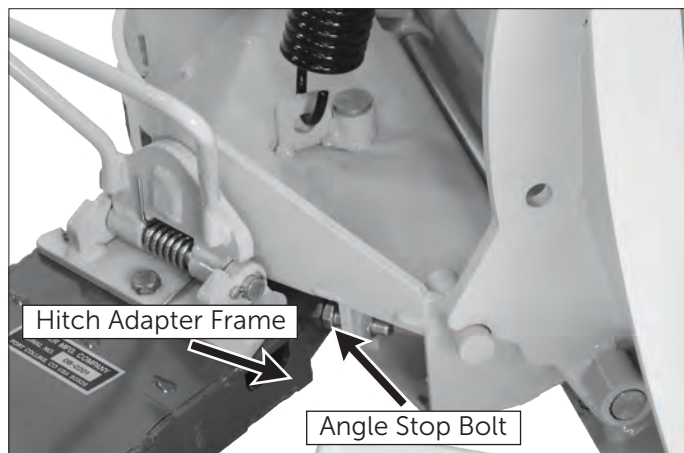
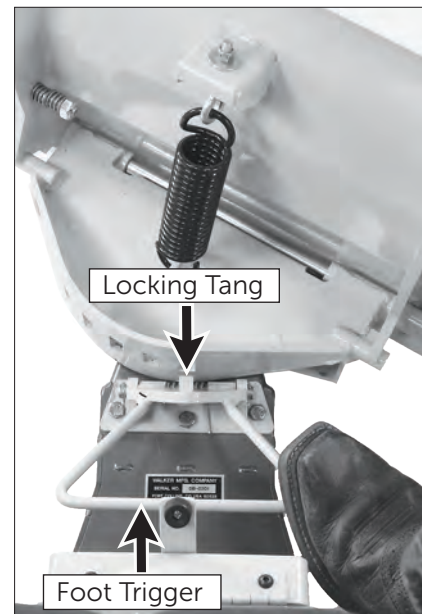

Figure 4.1
Figure 4.2
3. Check adjustment of angle stop bolts with blade in the fully angled position in both directions (figure 4.1). Confirm foot trigger locking tang engages freely in the angle adjust slot while the stop bolt is contacting the side of the hitch adapter frame (figure 4.2). Adjust as necessary.